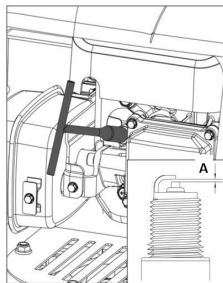

Figure 40
2. Unscrew the spark plug with the supplied spanner (Figure 40).
3. Check the electrode gap (Figure 40 A) and reset it if necessary.